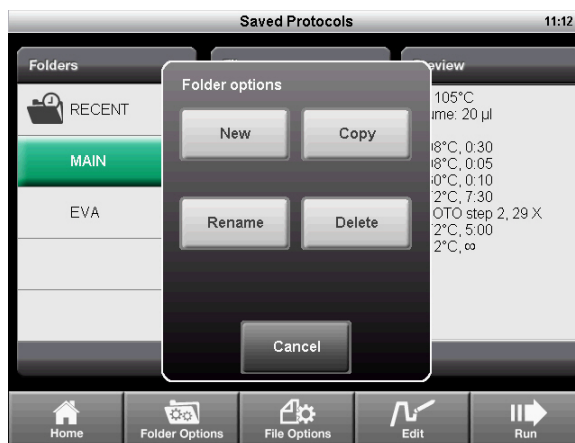

Figure 22. Touch New to create a new folder on the cyclor.
1. From the **Saved Protocols** screen, touch **Folder Options > New** (Figure 22).
2. Touch **Folder Options > Copy** to copy a folder or **File Options > Copy** to copy a protocol file (Figure 22).
2. Touch **Folder Options > Delete** to delete an entire folder or **File Options > Delete** to delete a single protocol file (Figure 22).